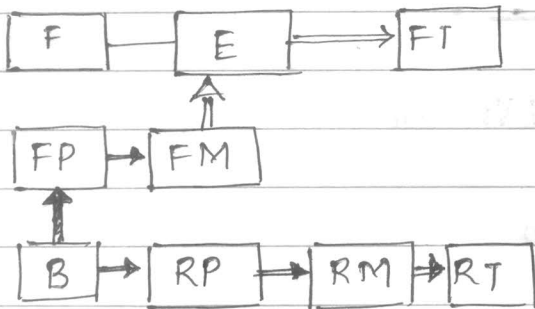

fig 5a Mode 1 Start up
- Mode 1: During startup (fig 5a), the required traction power is delivered by the EMs and the engine is in off mode.